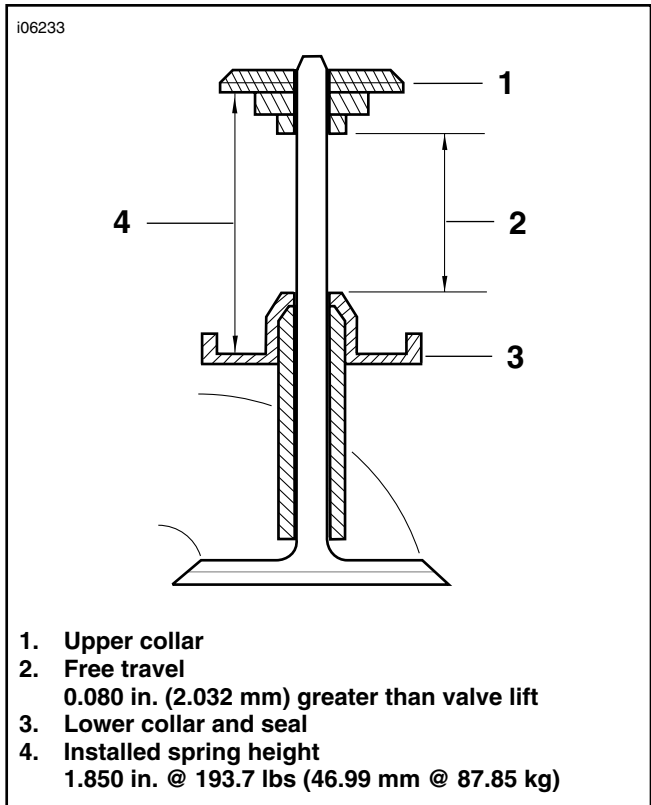

Figure 1. Installed Spring Height
7. See Figure 1. Using the springs, collars and keys from in this kit, assemble cylinder heads following Service Manual instructions.